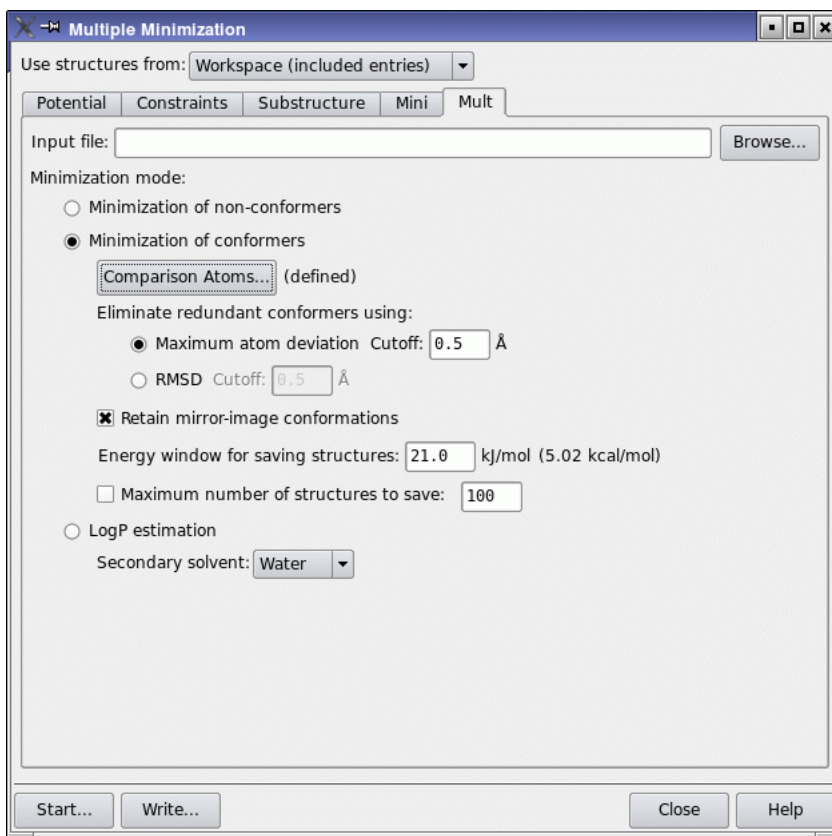

Figure 3.6. The Multiple Minimization panel showing the Mult tab.
7. Choose Project Table (selected entries) from the Use structures from option menu (see Figure 3.6).